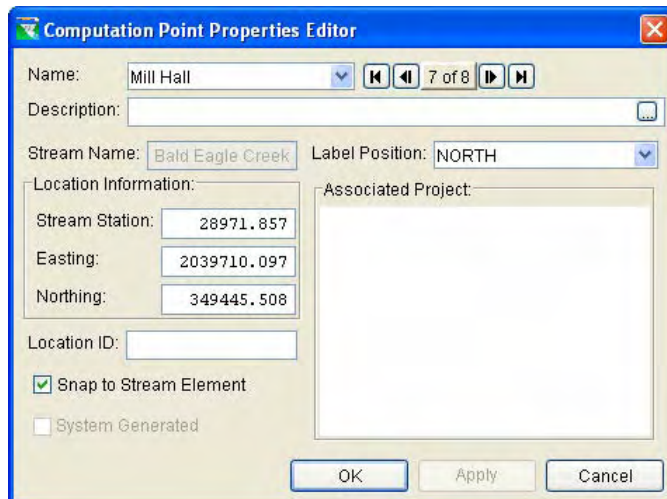

Figure 6.26 Computation Point Editor
4. Select **Edit Computation Point**. The **Computation Point Editor** (Figure 6.26) will appear.